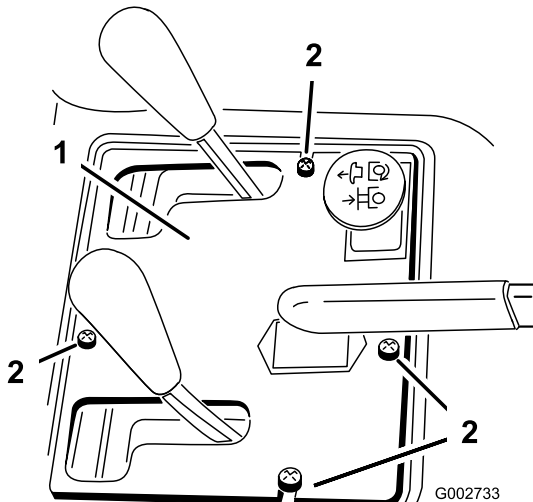

Figure 38
2. Remove the 4 screws securing the control panel to the frame (Figure 38).